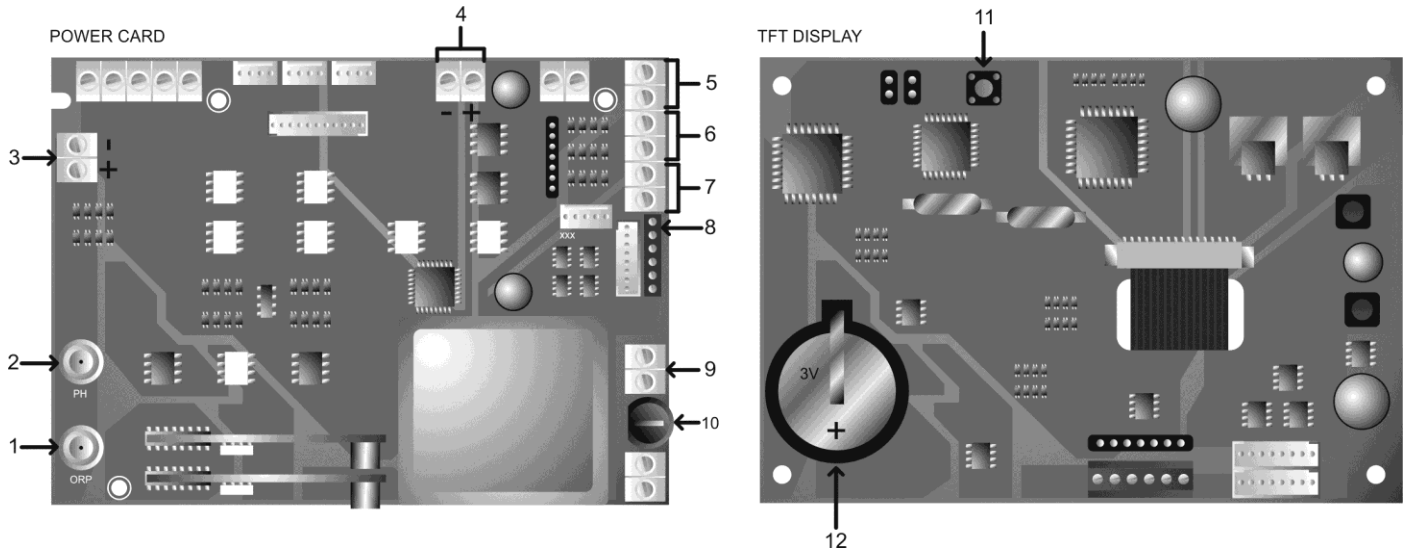

Fig. 16
Besides basic operations, the electrolysis system have a series of input-output signals, enabling the connection of additional external controls. They are located on connector [CN4] of the power card, inside of the power supply (Fig. 16).
Reset Calibration: Switch-On TFT pressing key 11, Fig.16 (factory default).